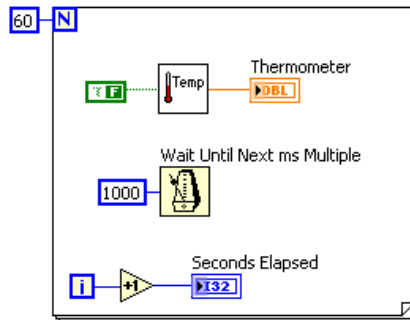

Figure 3.10
- Build the block diagram shown in Figure 3.10.